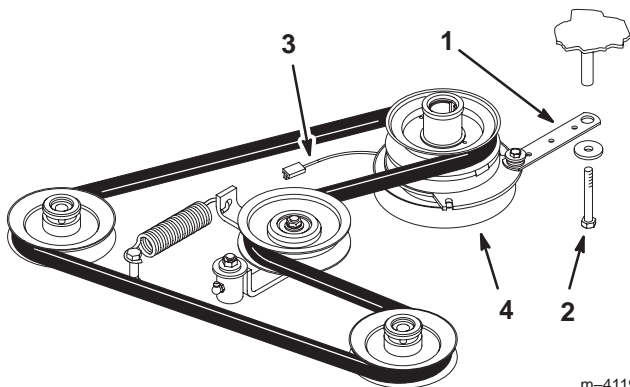

Figure 2
1. Remove the clutch strap for the clutch (Fig. 2).
2. Unplug the clutch connector (Fig. 2).
8. Install the clutch strap (Fig. 2).
9. Plug in the clutch connector (Fig. 2).